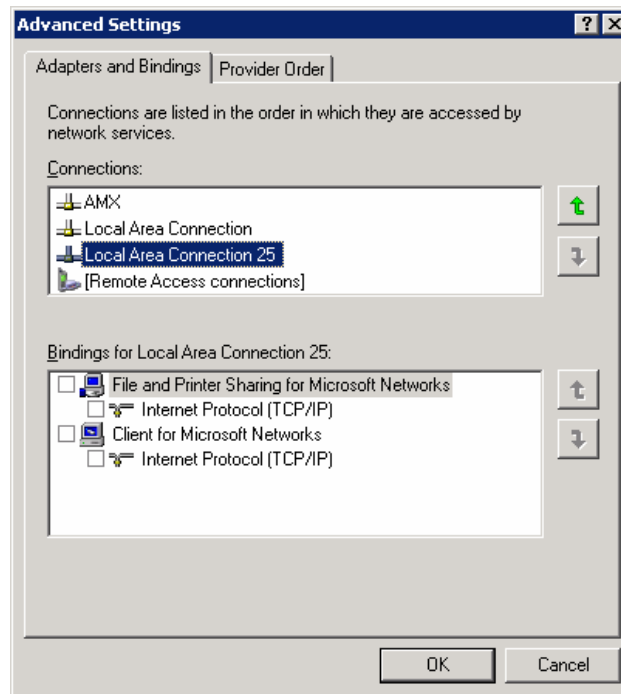

FIG. 73 Bindings for Local area list detail
- In the lower *Bindings for Local Area Connection* field, unselect ALL bindings by clicking on the checkboxes by each binding to remove the checks from each box (FIG. 73).